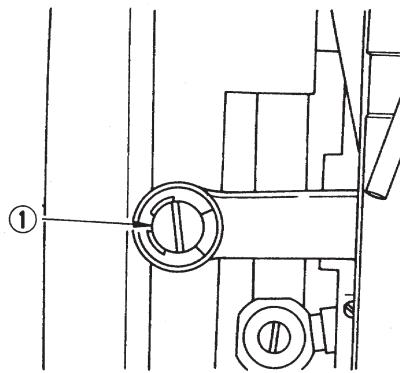

Fig. 38
After correct timing is adjusted, clamp in the set screw tightly. Replace the machine head cover. The correct position of the needle drop is set at the plant. If the needle does not drop in the center of the groove of the throat plate at the "0" position, remove the face plate, loosen the eccentric shaft set screw and by slightly rotating the eccentric shaft (Fig. 38 ①), watch the needle dropping position carefully and adjust to the correct position.